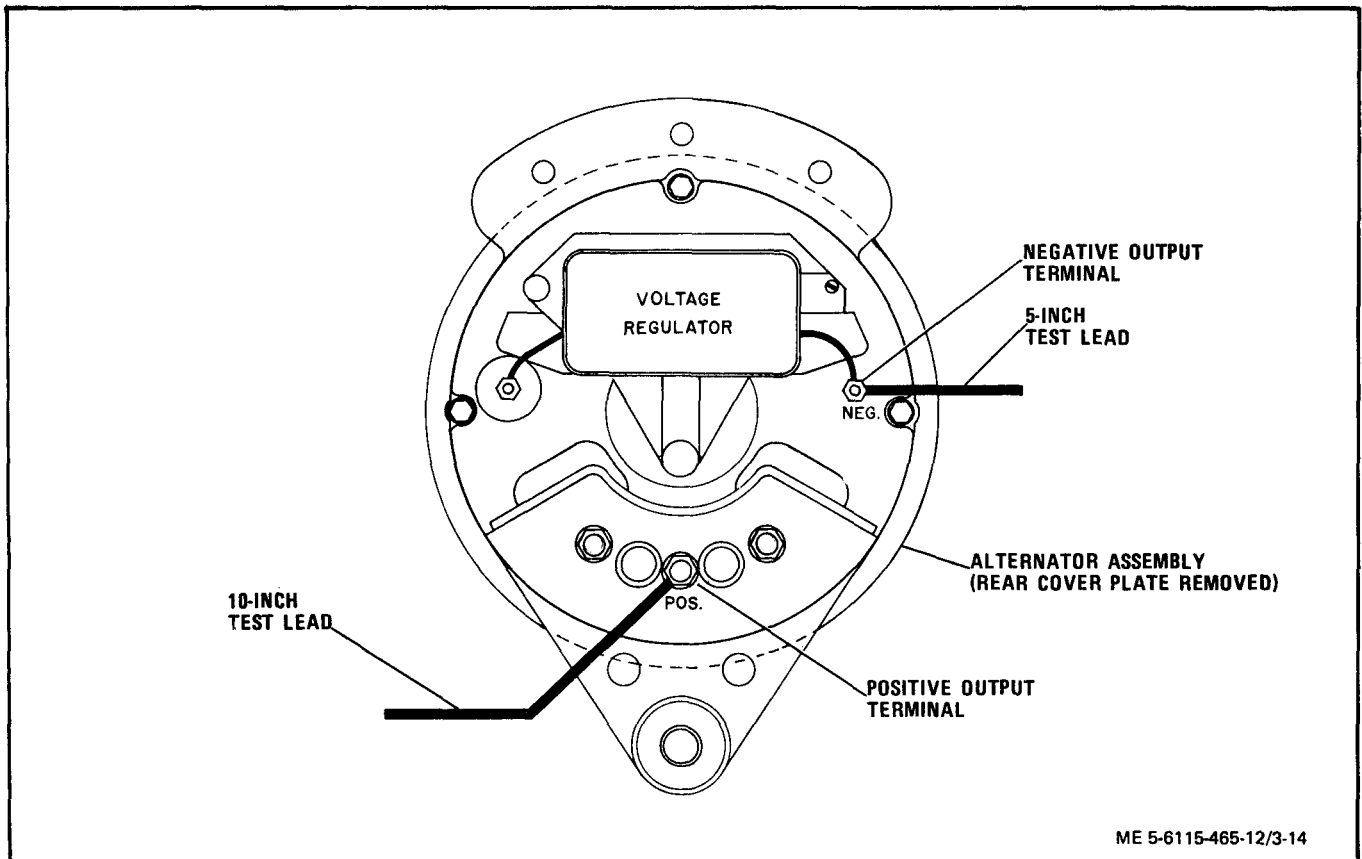
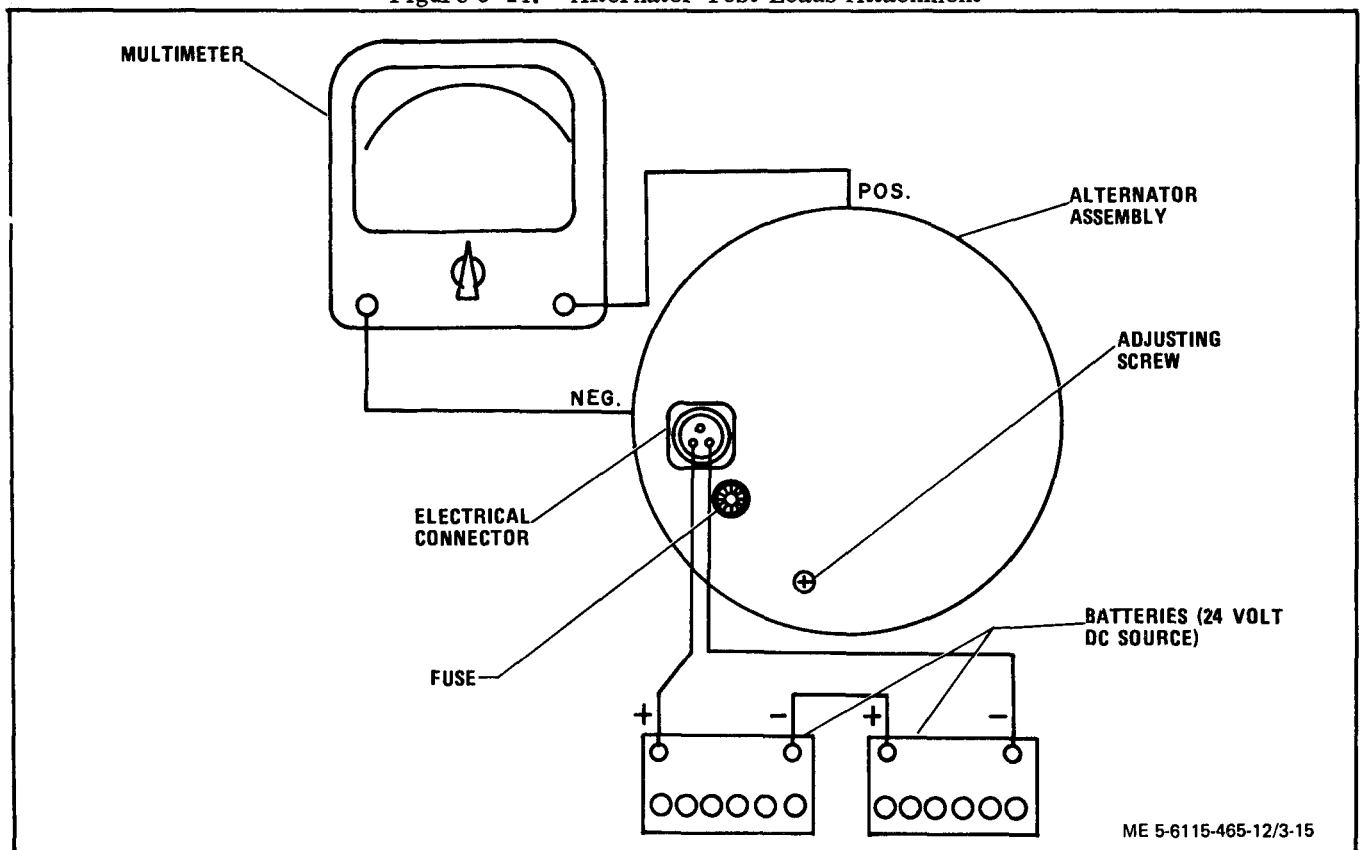

Figure 3-14. Alternator Test Leads Attachment
Figure 3-15. Alternator Test Circuit
(4) Attach the test leads as shown in figure 3-14 and pass the free end of each lead through a hole in the ventilated shield of the alternator housing.
(5) Carefully install the rear cover plate and secure with screws.
(6) If alternator is still installed in the generator set, connect wiring harness connector to the alternator.
(7) If alternator has been removed, install it in test setup as shown in figure 3-15 and provide a means of rotation at approximately 2500 rpm.
(8) Place multimeter selector in the 50 Vdc position.
(9) Operate alternator at the required rpm and note the reading on the multimeter.
(10) If multimeter reading is not in accordance with table 3-5, rotate adjusting screw to obtain proper reading.